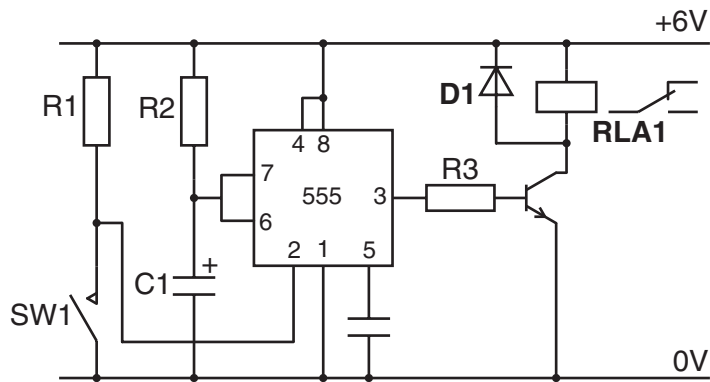

Fig. 6
- (e) Fig. 6 shows a modification to the circuit.